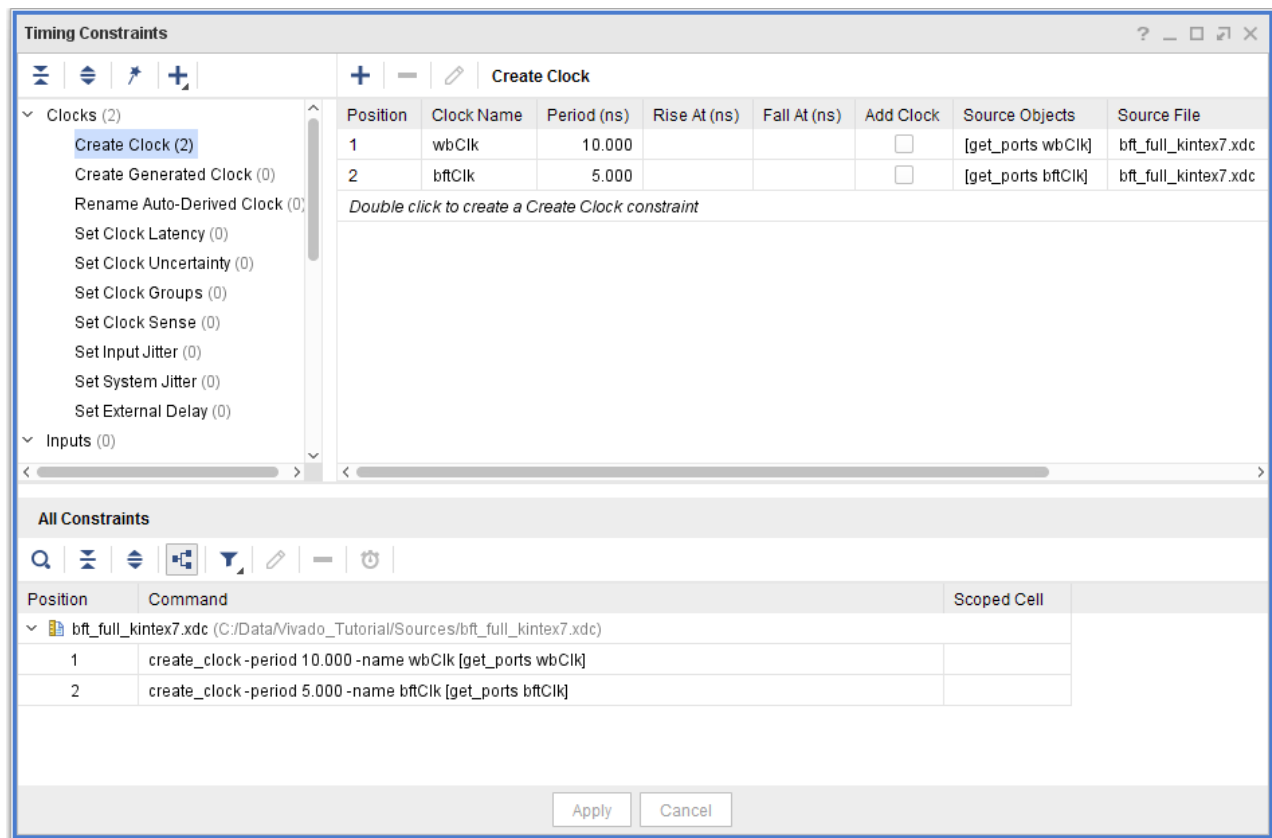

Figure 3: Define Timing Constraints
2. In the left hand tree view of the Timing Constraints window, double-click **Create Clock** under the Clocks category, as shown in Figure 3.